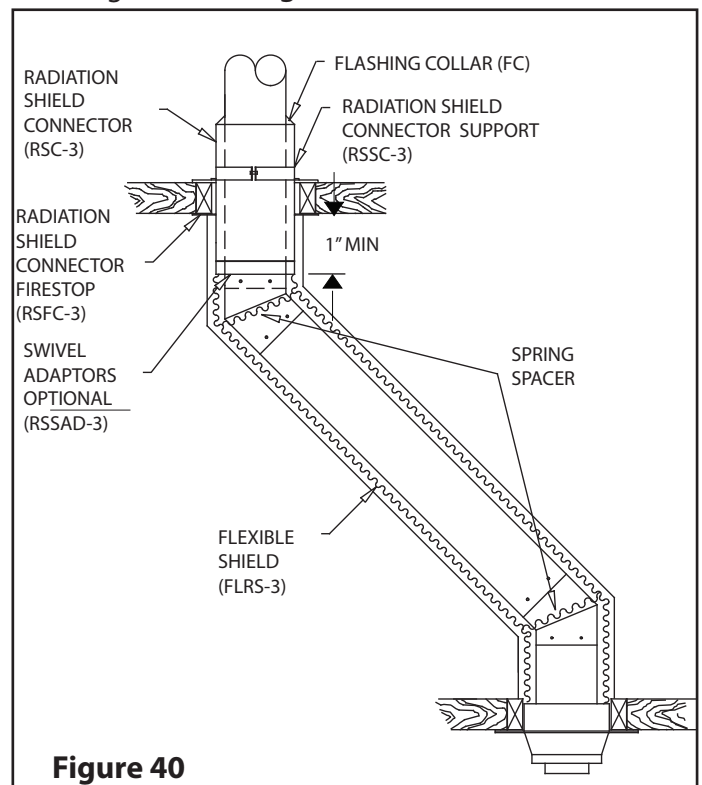

Figure 40
Step 5. At the ceiling level from the top, position a Radiation Shield Connector (RSC-3) and a Radiation Shield Support (RSSC-3) attached but not tightened together (see **Figure 40**).
Step 6. Slide the Radiation Shield Connector down until the bottom of the insulated tube exceed the bottom of ceiling. Adjust the height until a minimum of (1") of the Radiation Shield Connector project below the ceiling and tighten the support collar around the shield connector (see **Figure 40**).
Step 8. Install the insulated offset elbow on the vertical chimney length. Turn it in the required direction and fasten it to the chimney with the (4)-1/2" metal screws provided.
Step 10. Use another elbow to turn the chimney vertically. Again secure the elbow to the chimney length using the (4)-1/2" metal screws.
- Attach a spacer spring around the chimney at each elbow to help keep the Flexible Shield centered. (See **Figure 40**)
Step 11. Slide the Flexible Shield up the chimney and attach it below the ceiling to the Radiation Shield Connector using (3) - 1/2" self tapping metal screws.
NOTE: If you are limited in space to be able to fix the screws that fix the FLEX (FLRS-3) to the Radiation Shield Connector, (RSC-3) install a Swivel Adaptor (RSSAD-3) (see **Figure 40**) below the Shield Connector (RSC-3) and one on the top end of the Flexible Shield.
Determine the offset required in view of the obstacles that must be avoided (see **Figure 40**). Refer to **Table 13** to determine the elbows required as well as the insulated length needed. If required, an adjustable length can be used to offset exact distance required.